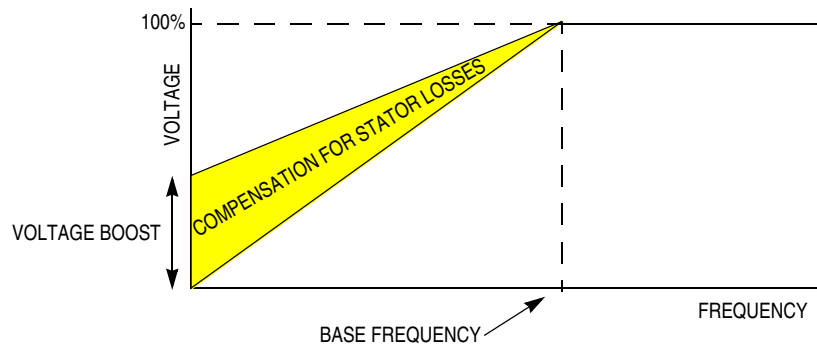
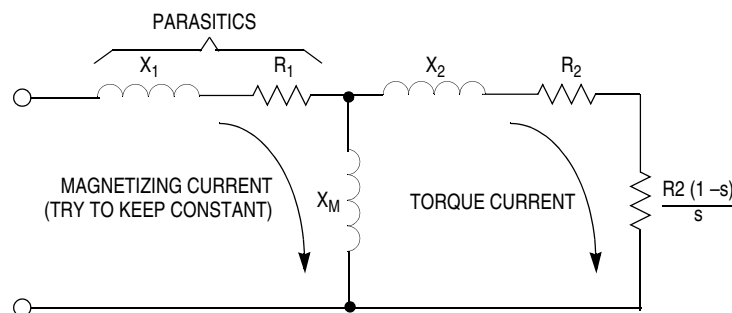

**Figure 5. Voltage Profiling, Including Voltage Boost**
**Figure 6. AC Motor Single Phase Model Showing Parasitic Stator Impedances**
**Voltage Profile Generation** — The MC3PHAC controls the motor voltage in proportion to the specified frequency, as indicated in Figure 5.
illustrated in Figure 6. To compensate for this voltage loss, the voltage profile is boosted over the normal voltage curve in Figure 5, so that the magnetizing current remains constant over the speed range.
The MC3PHAC allows the voltage boost to be specified as a percentage of full voltage at 0 Hz, as shown in Figure 5. In standalone mode, voltage boost is specified during the initialization phase by supplying a voltage to the MUX\_IN pin while the VBOOST\_MODE pin is being driven low. Refer to the graph in Figure 11 for the resistance value versus voltage boost. Figure 11 assumes a 6.8 kΩ pullup resistor. In this way, voltage boost can be specified from 0 to 40 percent, with a scaling factor of 8 percent per volt. In PC master software mode, the voltage boost can be specified from 0 to 100 percent and can be changed at anytime.